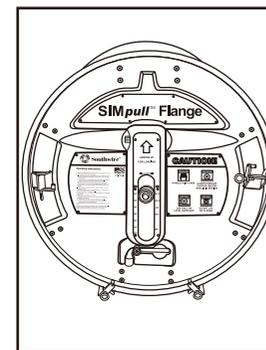

Fig. 6
4. Place the 2 chocks with the magnets facing up, on the front and back of the SIMpull™ Flange (Fig 6).